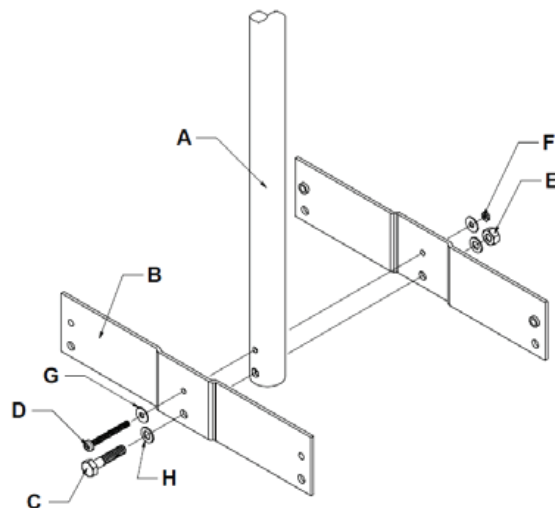

Figure1
- 2) Attach the two Crossbars to the down tube of the Telescopic Ceiling Mount as described below. Refer to Figure 1.